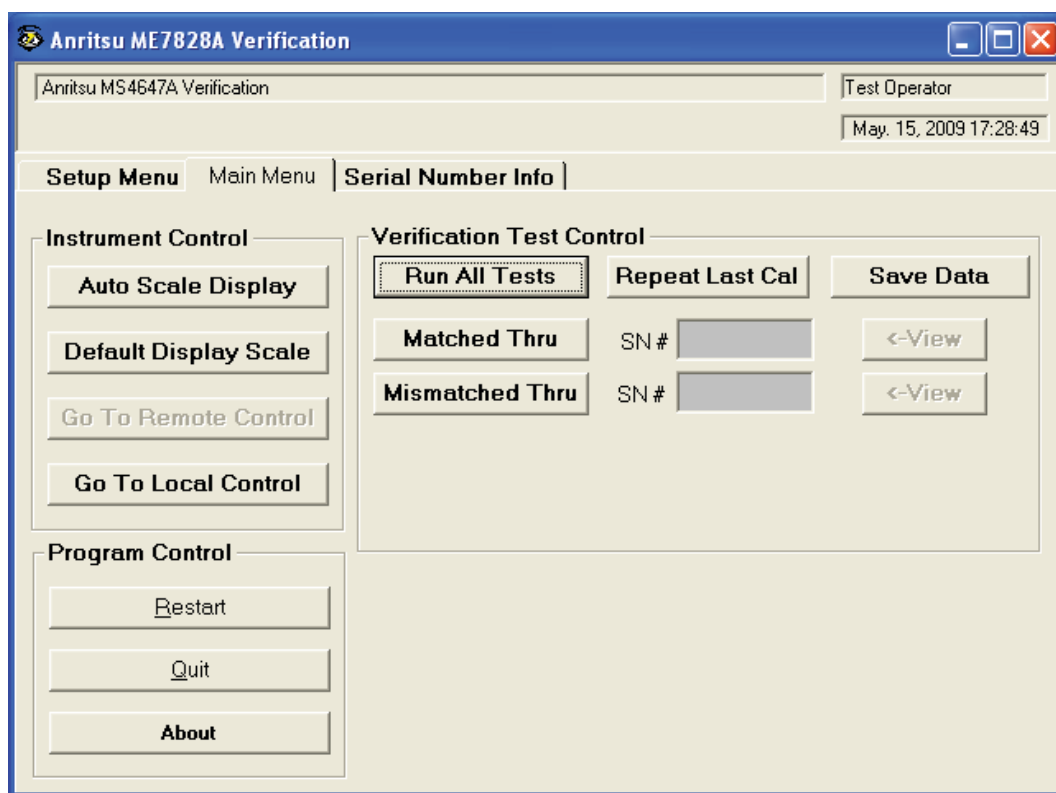

Figure 4-35. ME7828A Application Interface – Main Menu Tab
- The Main Menu tab display is described in the section immediately following and is shown in Figure 4-35, “ME7828A Application Interface – Main Menu Tab” on page 4-23
This command button runs both the Matched Thru and Mismatched Thru tests. Program execution starts with Section 4-10 “Matched Thru Tests” on page 4-28 and then continues with Section 4-11 “Mismatched Thru Tests” on page 4-31. When both tests are completed, program execution returns to the Main Menu tab shown in Figure 4-35, “ME7828A Application Interface – Main Menu Tab” on page 4-23.
This command button re-calibrates the VNA according to the CURRENT calibration. This provides a way to recalibrate the VNA without having to reset the program parameters in case the original calibration was flawed for some reason. When the calibration sequence is complete, program execution continues to the Main Menu tab shown previously in Figure 4-35, “ME7828A Application Interface – Main Menu Tab” on page 4-23.
This command button only runs the Mismatched Thru tests. If selected, program execution continues in Section 4-11 “Mismatched Thru Tests” on page 4-31. When the tests are completed, the program returns to the Main Menu tab shown in Figure 4-35, “ME7828A Application Interface – Main Menu Tab” on page 4-23.
9. If only the Matched Thru button was selected, the program returns to the “Application Interface – Main Menu Tab” on page 4-23. The dialog box is shown in Figure 4-35, “ME7828A Application Interface – Main Menu Tab” on page 4-23.